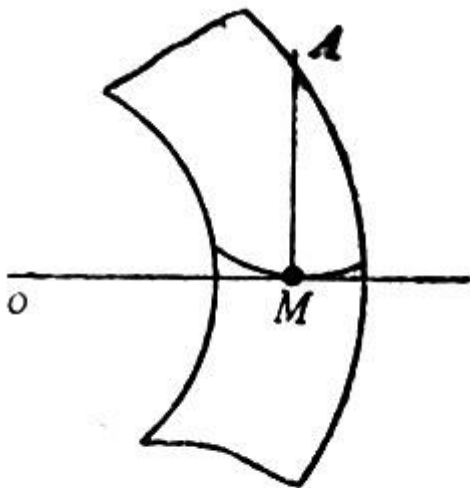

图 5-96
Tooth traces whose spiral angle  $\beta_m = 0$  is called zero tooth trace. Let  $oM \perp MA$ , then the central curvature of tooth trace at the central point M will fall on the line (MA) . See Figure 5-96.